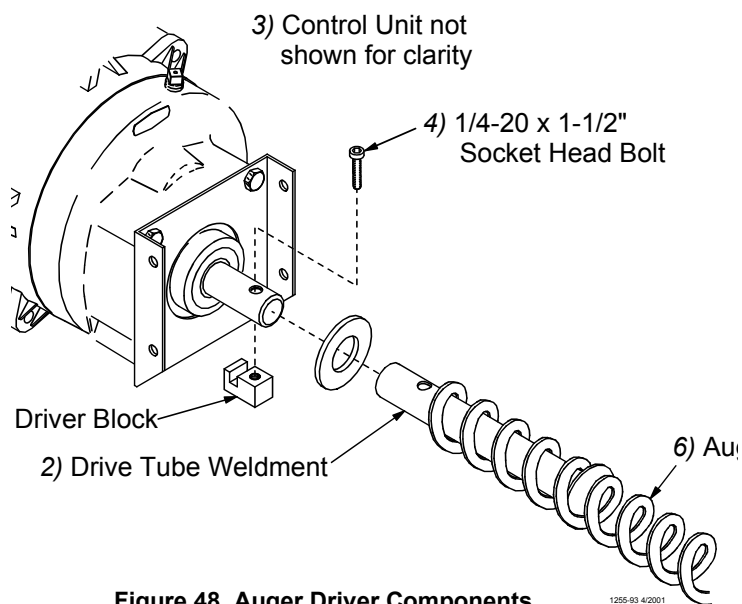

Figure 48. Auger Driver Components
4. Slide the Drive Tube and flat washer over the output shaft on the Power Unit, as shown in **Figure 48**.
6. Turn the Drive Tube Weldment into the auger, then attach to the output shaft of the Power Unit, as shown in **Figure 48**. Use the Driver Block to secure the auger to the Output Shaft.